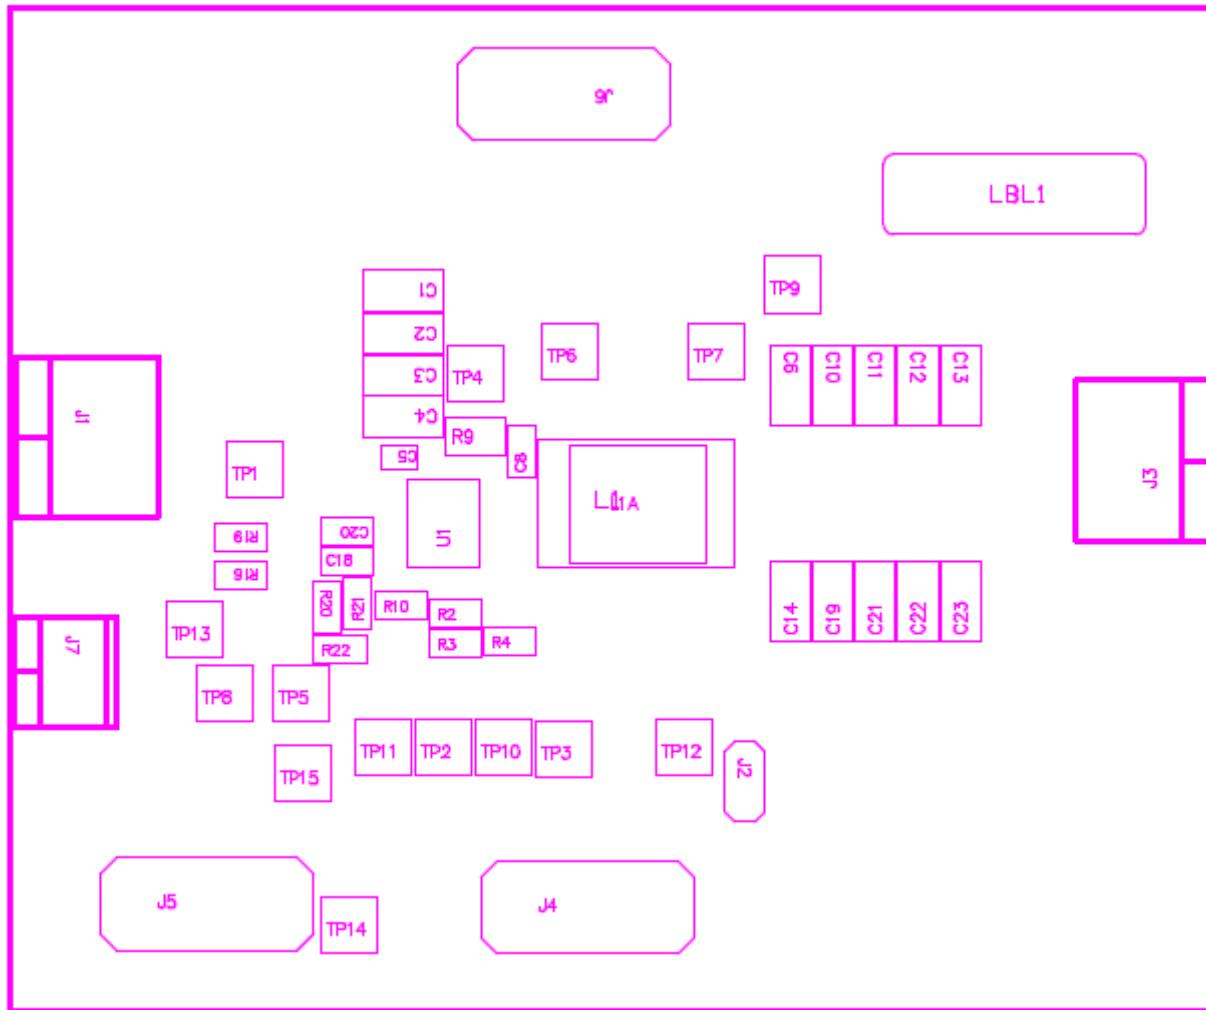

Figure 5-2. TPS53915EVM-587 Top Layer for Test Setup
Voltage Source The input voltage source VIN must be a 0 to 14-V variable-DC source capable of supplying 10 ADC. Connect VIN to J1 as shown in Figure 5-2.
1. Prior to connecting the DC input-source, V_{IN} , TI recommends to limit the source current from V_{IN} to 10-A maximum. Ensure that V_{IN} is initially set to 0 V and connected as shown in Figure 5-2.
1. Set up the EVM as described in Section 5 and Figure 5-2.